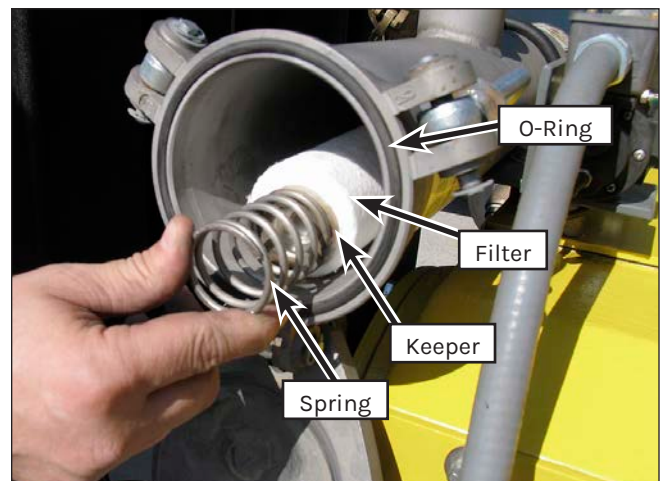

Figure 56: Cartridge Removal.
2. Slowly open the cover and capture the spring (Figure 56) and spring keeper.